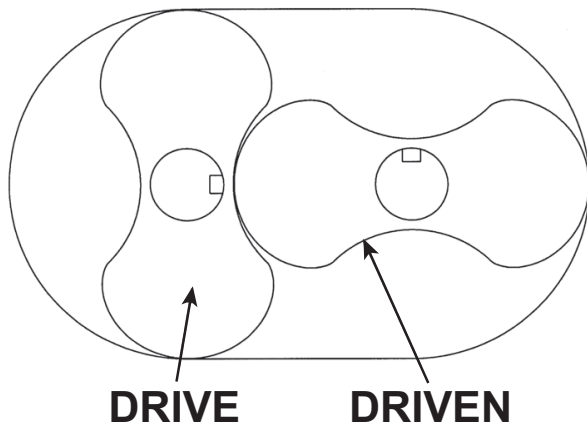

Figure 8-4 – Keyway Position
8. Align the timing marks on the gears (see **Figure 8-3**). Rotate the drive gear clockwise approximately three teeth, and mark a matching reference line on each gear as shown in **Figure 8-4**. This gear position is necessary so rotors will clear and not jam. Do not allow the gears to move from the matched reference line while pulling. Use a light rocking motion to make sure that the lobes have not jammed. Remove the driven gear first, and then remove the drive gear.
2. Stand the rotors on a press with the drive rotor on the left, making sure the keyways are properly positioned as shown in **Figure 8-4**. You may use the drive end plate as a temporary fixture to support the rotor lobes while pressing on the bearings and gears.